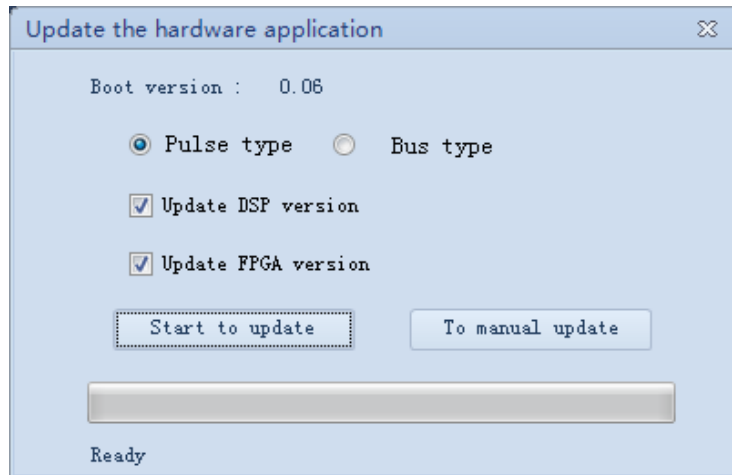
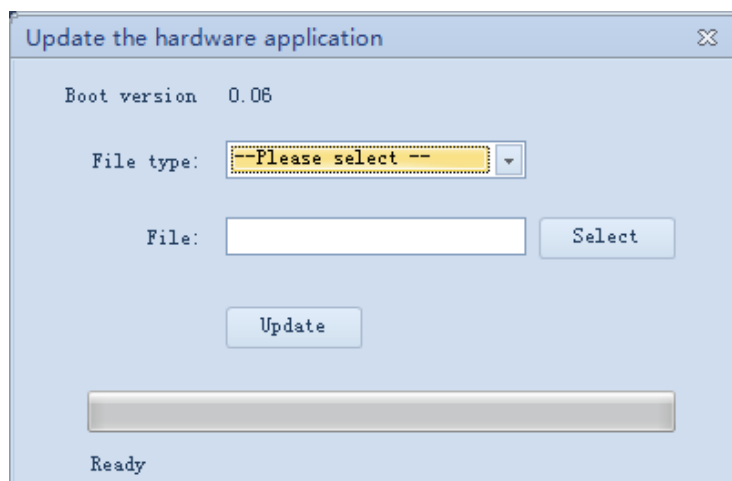

Fig. 10-5 Hardware updating window
Fig. 10-6 Manual updating window
Click “Update hardware” in the pull-down list under “Other” to open the hardware updating window, as shown in Fig. 10-5. The hardware can be updated both automatically and manually.
1. As shown in Fig. 10-5, choose the driver type as the one you have used. Pulse type driver and bus type driver are optional.
1. As shown in Fig. 10-5, click “To manual update” to switch to manual updating window, see Fig. 10-6.
5. For manual updating, only one type of the driver can be updated at one time. If other hardware needs to be updated further, repeat steps 3~5. If there no other hardware needs to be updated, close the updating window and back to the interface as shown in Fig. 10-5.